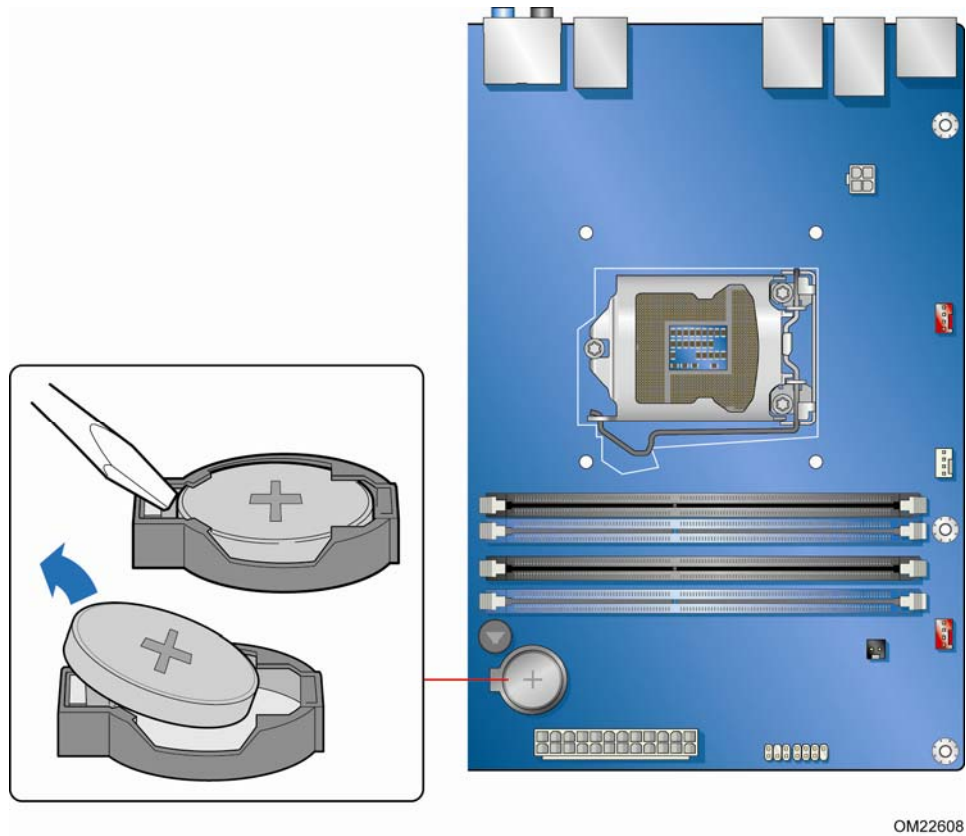

Figure 25. Removing the Battery
When the voltage drops below a certain level, the BIOS Setup program settings stored in CMOS RAM (for example, the date and time) might not be accurate. Replace the battery with an equivalent one. Figure 25 on page 57 shows the location of the battery.
4. Locate the battery on the board (see Figure 25).